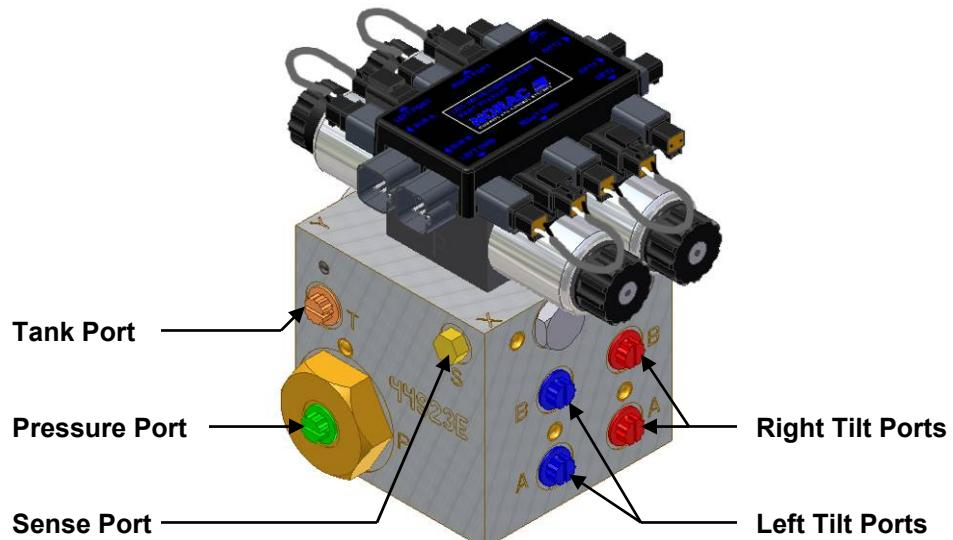

Figure 20: Valve Module - Valve Coil Connections
3. With the valve module securely mounted to the valve block, connect the valve cables (C10), to the valve coils as illustrated in **Figure 20**. Insert the 2-pin plugs (P01) into the unused 2-pin connectors on the valve module.